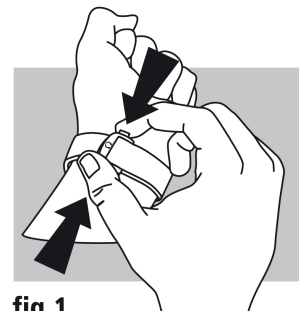

fig.1
**Opening (fig. 1):** to open the clasp, press the two pushers on either side of the OMEGA buckle and pull upwards.